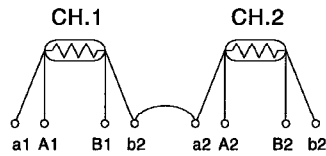

Fig. 1
- (1) Connect terminals a1 and b2 of A1S62RD4 (see Fig. 1 below).